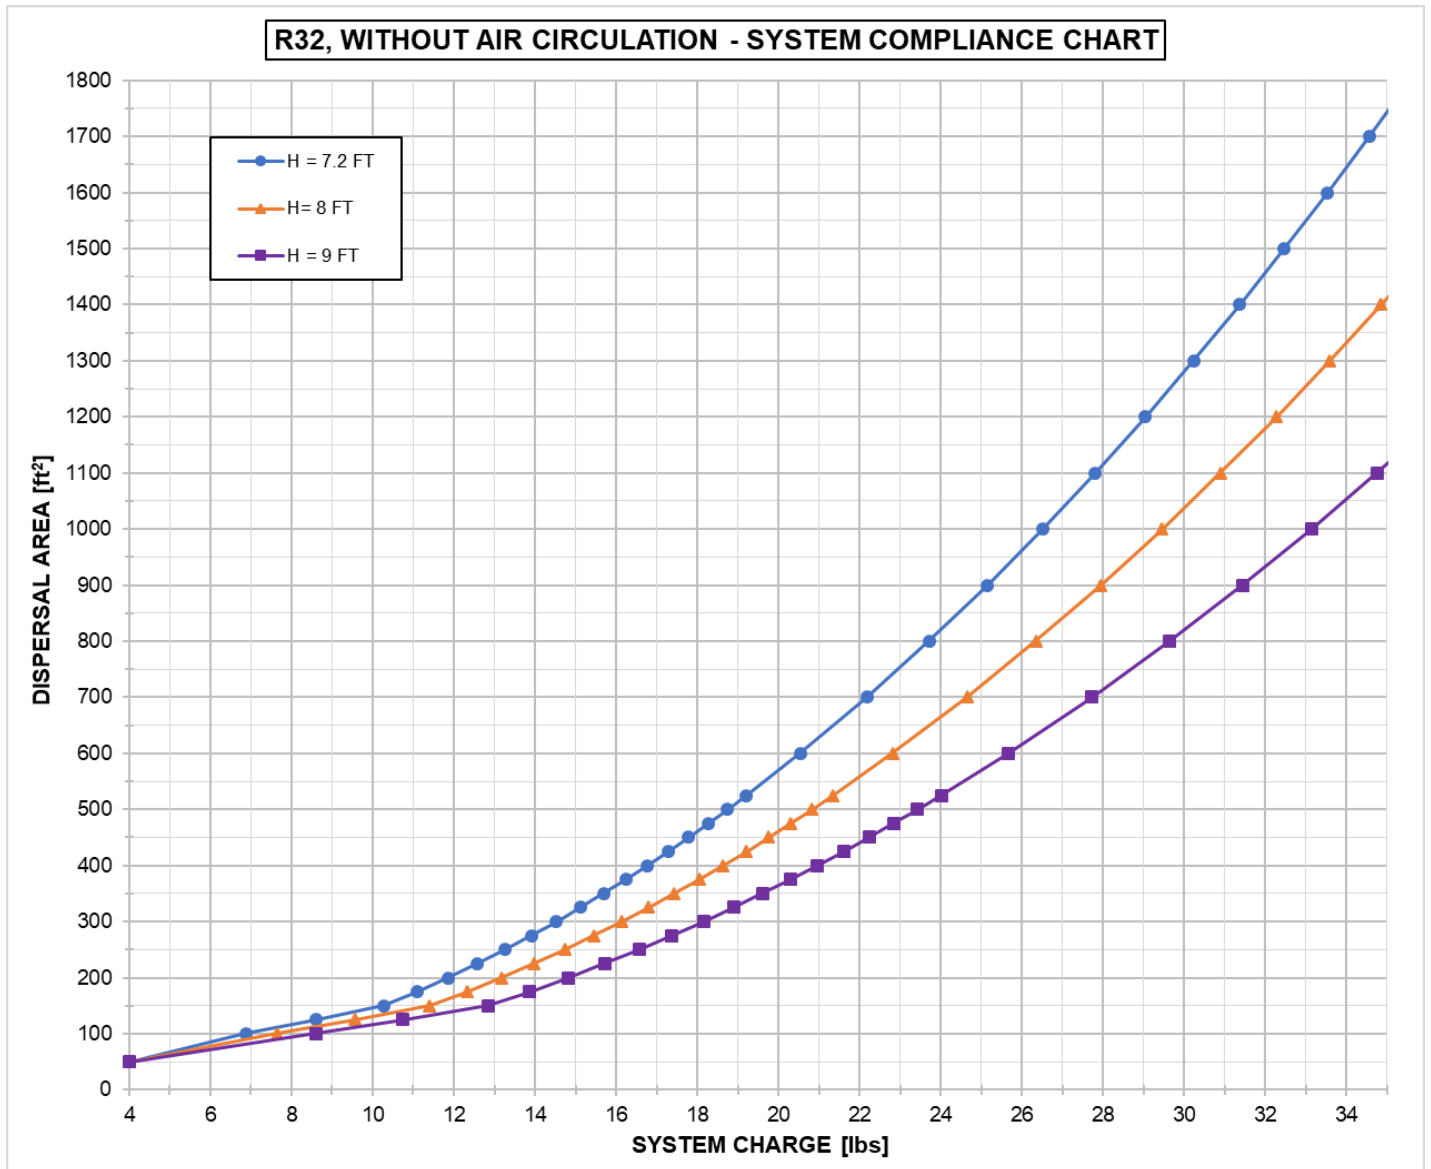

Figure 4. Refrigerant = R454B, Air Circulation Provided – System Charge Compliance Chart
- Figure 4: Refrigerant = R454B, Air Circulation Provided – System Charge Compliance Chart